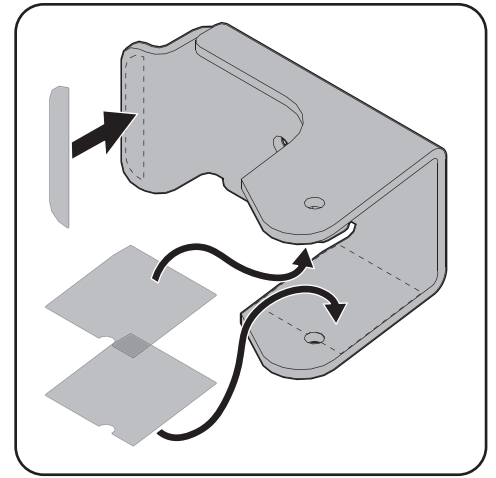

Figure 4-23
1. Before assembly, peel the adhesive decals from the sheet and apply to the inside faces of the right and left weight hanger brackets, as shown in Figure 4-23.